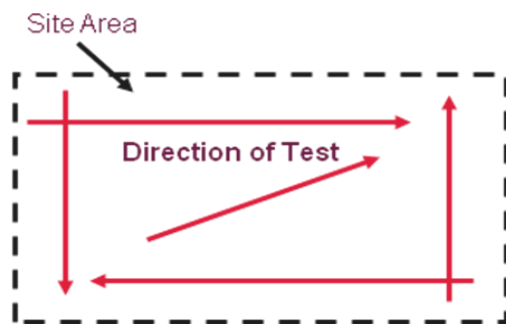

Fig 3 Typical Soil Resistivity Test Plan
**How Much Testing** – One line (probe spacing of 5, 10, 15, 20, etc feet) of testing is not enough. We prefer a minimum of 3 lines within the typical site. Starting in one corner, we would at least test down one side, then at a 45 degree angle, then at a 90 degree angle. Figure 3 indicates the typical test locations.
Figure 3 shows testing within a site. Often this may not be possible and also there will be sites where the area is not large enough to obtain all the test data we would like. It is often a compromise. We have encountered sites that have no place to test. In this case we will go to the nearest open space and also test any driven rods we might encounter. We do everything possible to obtain as much data as possible.